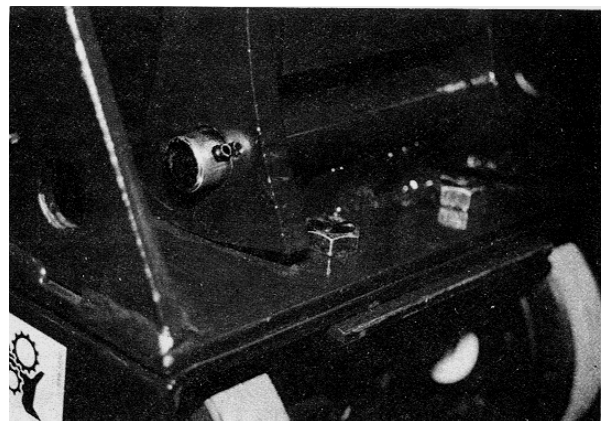

FIGURE 52
4) Push the rear casters towards the main frame until the upper limit stop is encountered. FIGURE 52.